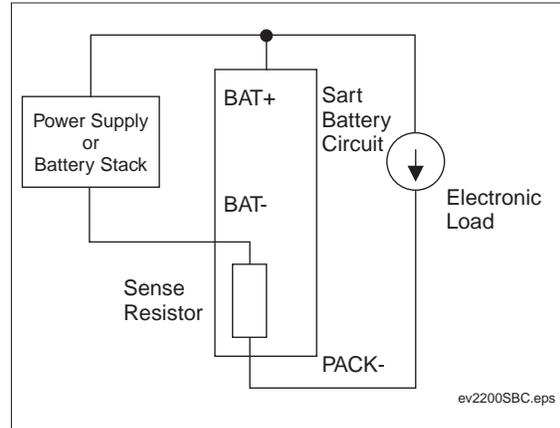

Figure 7. Current Calibration Set-up
- Connect the power supply or battery stack and electronic load as shown in Figure 7.